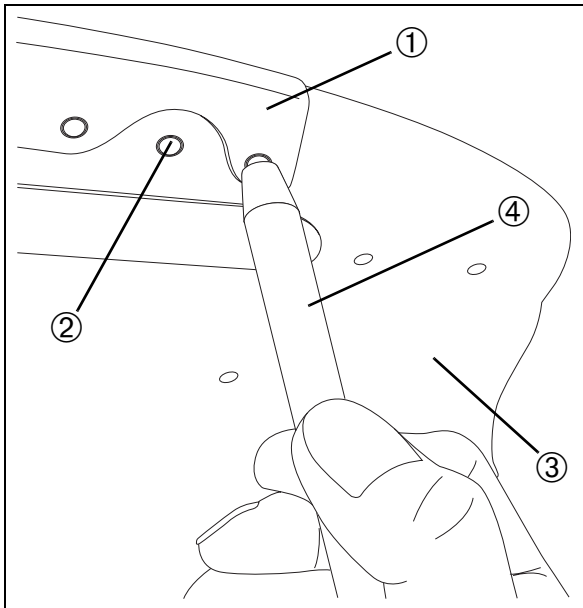

Fig. 17
The longitudinally slit silicone cover ① (Fig. 17) is attached to the handle using several metal knobs ② (Fig. 17) and can be removed from tray ③ (Fig. 17) for cleaning, disinfecting, etc. by pulling it off.
After the handle is on, push the silicone cover into the knobs using the supplied tool ④ (Fig. 17) to ensure it is seated securely.